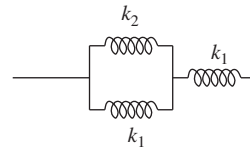

Figure P2.13 Parallel-series configuration of three springs.
- 2-13.** Consider the parallel-series configuration of springs shown in Fig. P2.13. The equivalent stiffness of this configuration is given by $k_{eq} = \frac{k_1(k_1 + k_2)}{2k_1 + k_2}$.